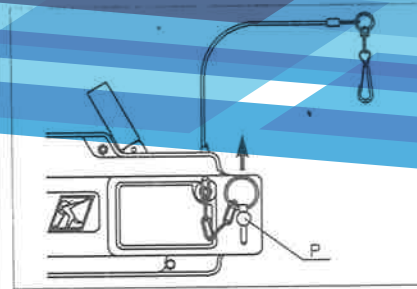

Fig. 2 Anchor locking pin in unlocked position for removing anchor pin
- 1- Remove the anchor locking pin (Fig. 2) and withdraw the anchor pin (P).